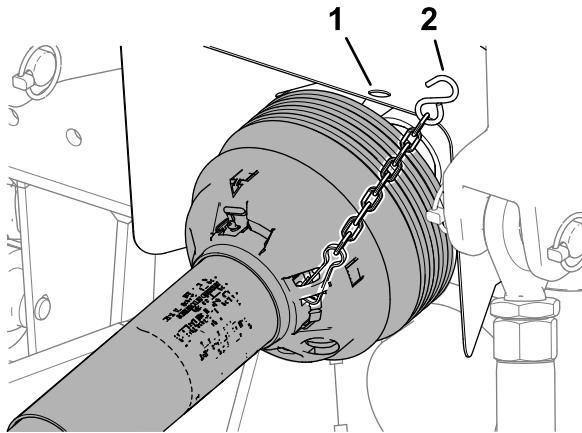

Figure 49
- Disconnect the safety shield chain (Figure 49) from the traction unit PTO (CE only).